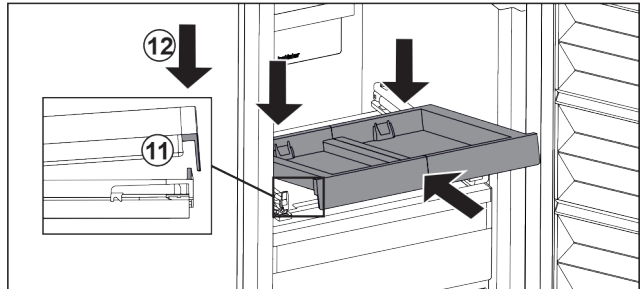

Fig. 108
- ▶ Slide in at an angle. Make sure that the stop is behind the lug on both sides. Fig. 108 (11)
- ▶ Lower the pull-out board at the front. Fig. 108 (12)